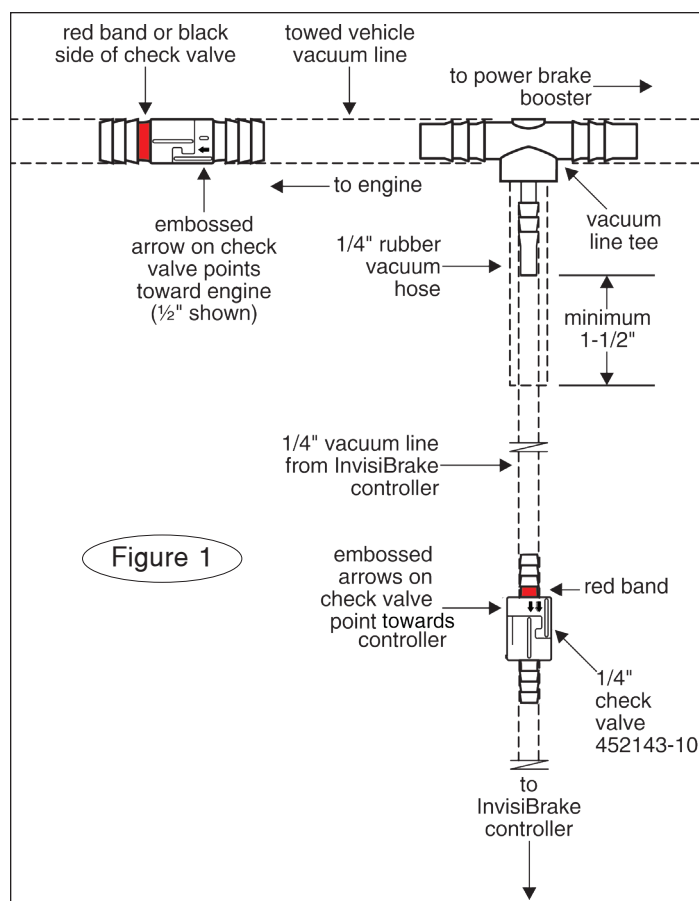

Figure 1
2. Install the 1/4" check valve while you are attaching the 1/4" vacuum line from the InvisiBrake controller to the towed vehicle's vacuum line (in the section titled "Attach the vacuum line"). The check valve is installed as shown in Figure 1.